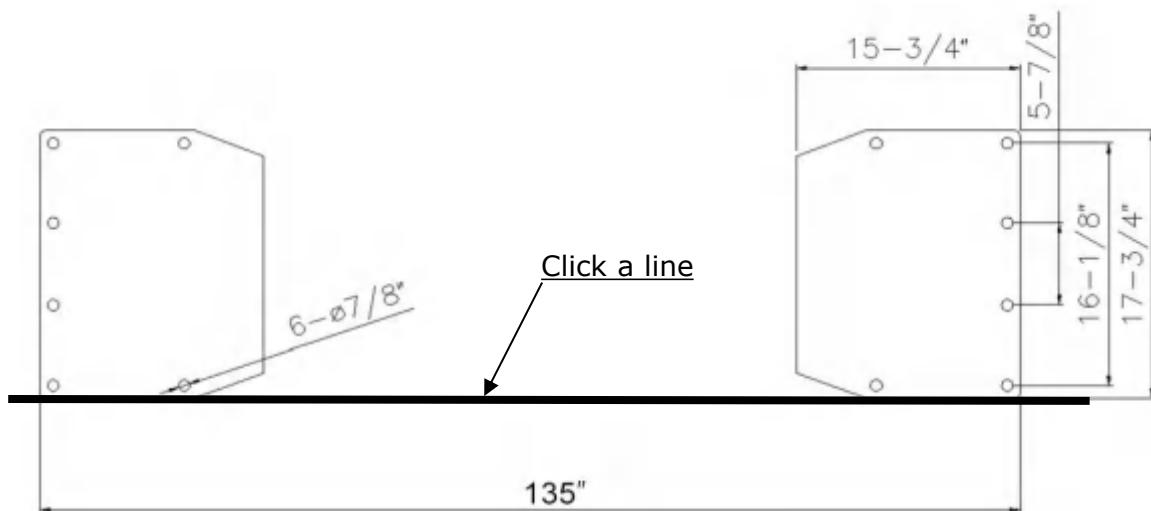

Fig. 7
- B. Use a carpenter's chalk line to establish installation layout of base-plate (See Fig.7).